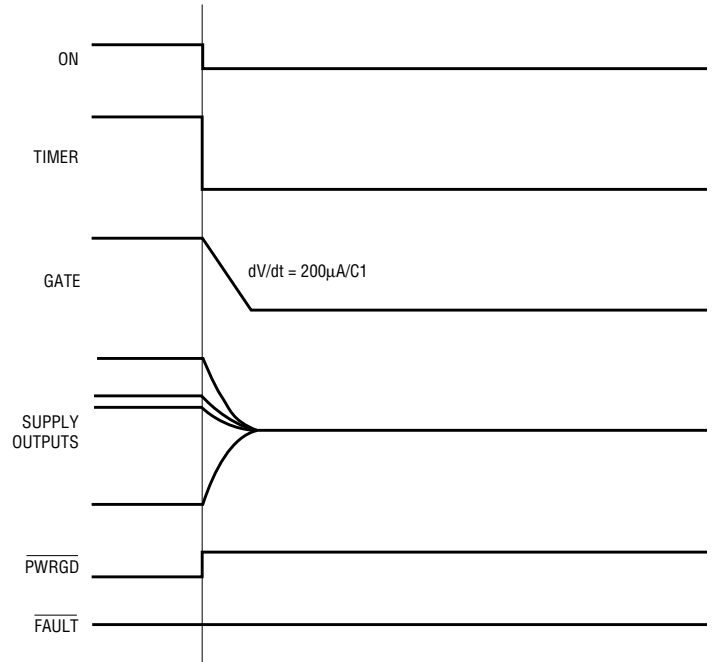

Figure 3. Normal power-down sequence
When the ON pin (5) is pulled low, a power-down sequence begins (see Figure 3). Internal switches are connected to each of the output supply voltage pins to discharge the bypass capacitors to ground. The TIMER pin (4) is immediately pulled low. The voltage on the GATE pin (11) is discharged by a $200\mu A$ current source to prevent the load currents on the 3.3V and 5.0V supplies from going to zero